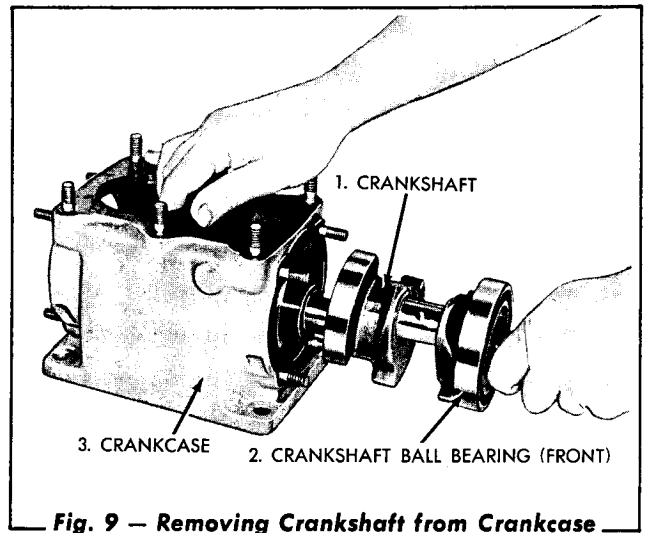

Fig. 9 — Removing Crankshaft from Crankcase
- 11. Remove the crankshaft and the ball bearings from the crankcase as a unit (Fig. 9).